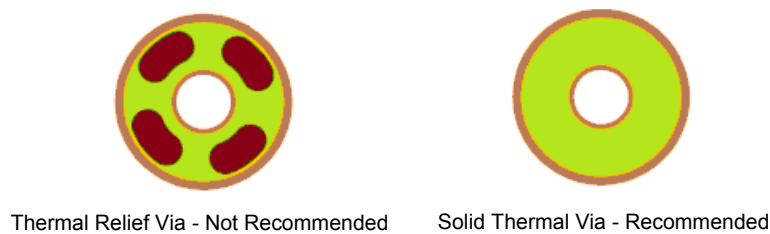

Figure 10. Types of Via
The exposed pad (EP) is the ground return for all the switching regulators and should be connected to the ground plane(s) through vias. A minimum of 16 vias is recommended under the EP. The EP also acts as a heat sink for the PF3000, so the vias should not have thermal relief. The designer should also allow sufficient copper area for the EP to reduce unnecessary thermal stress. One efficient way to achieve this is to duplicate the EP ground plane on all layers. When routing high current paths, sufficient number of via should be placed in parallel to help reduce the parasitic impedance. They must be solid thermal vias as shown in Figure 10.